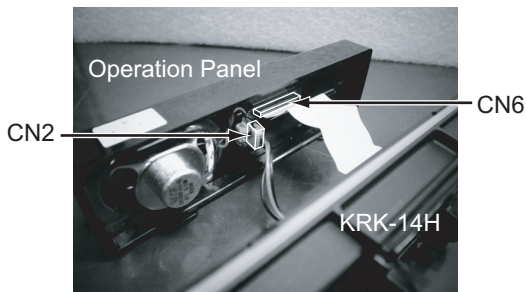

Fig.4
- (1) Insert the cable attached to the interface unit (XC3-0080-20) of the KRK-14H into the display unit connector (CN2) of the panel.
- (2) Insert the flat cable attached to the interface unit of the KRK-14H into the display unit connector (CN6) of the panel. (Fig. 4)